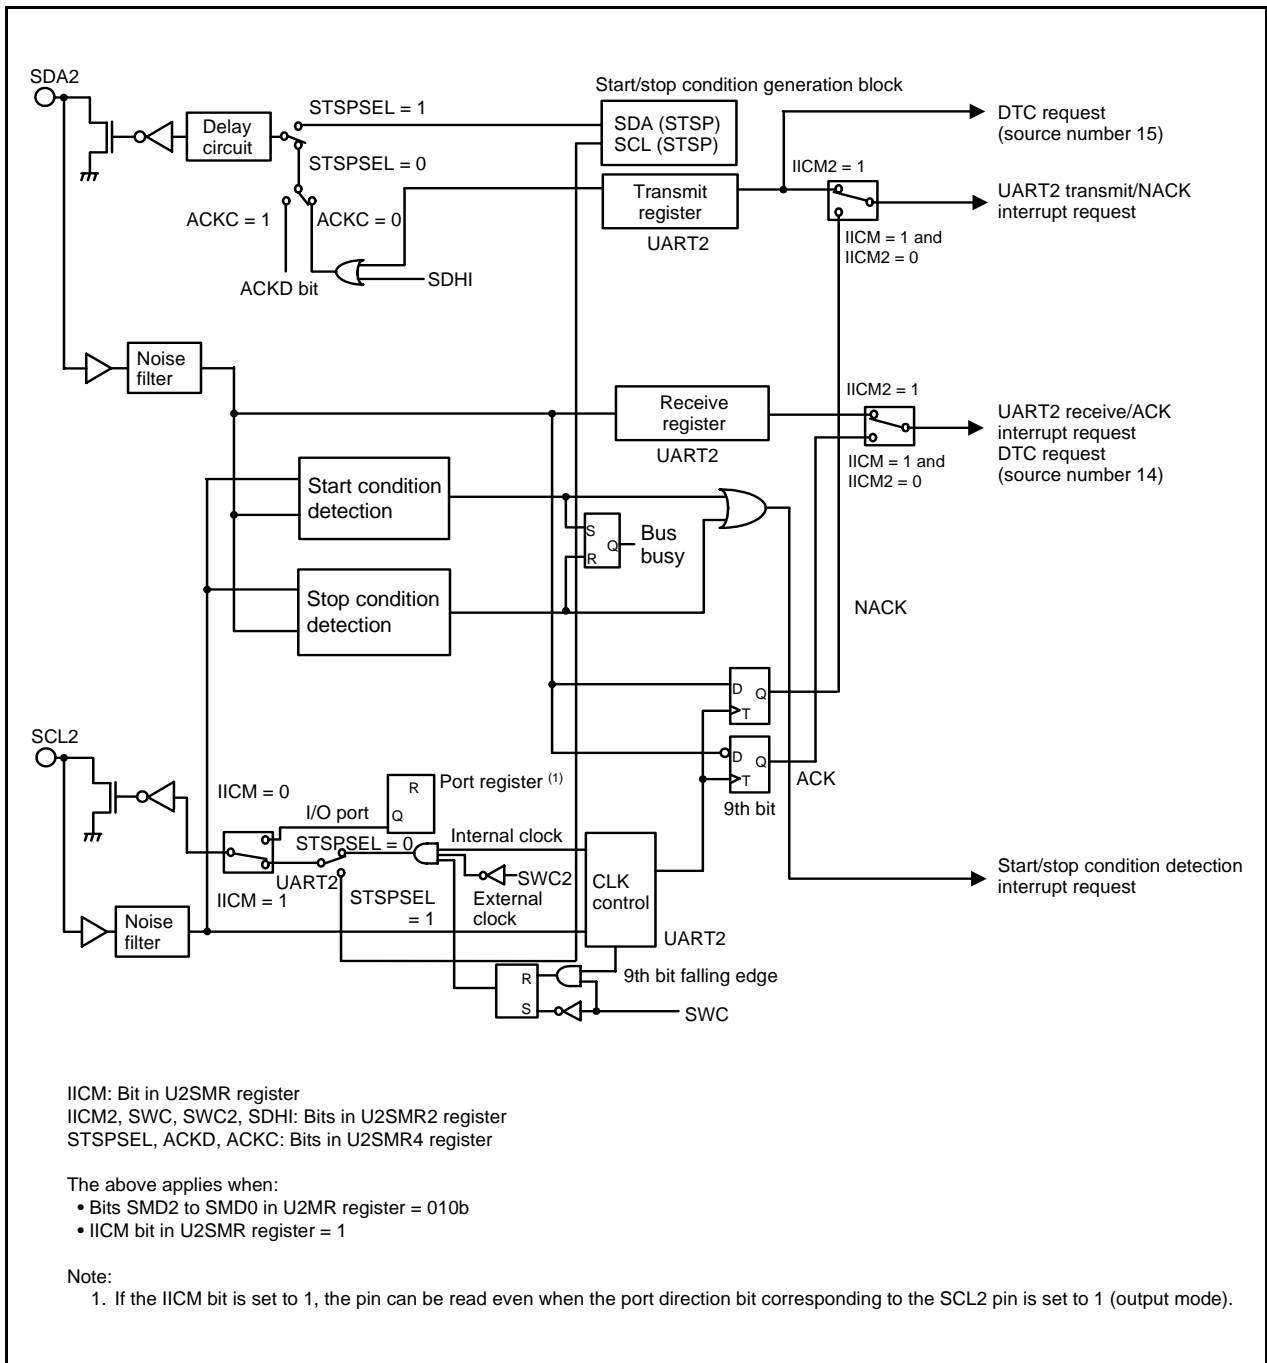
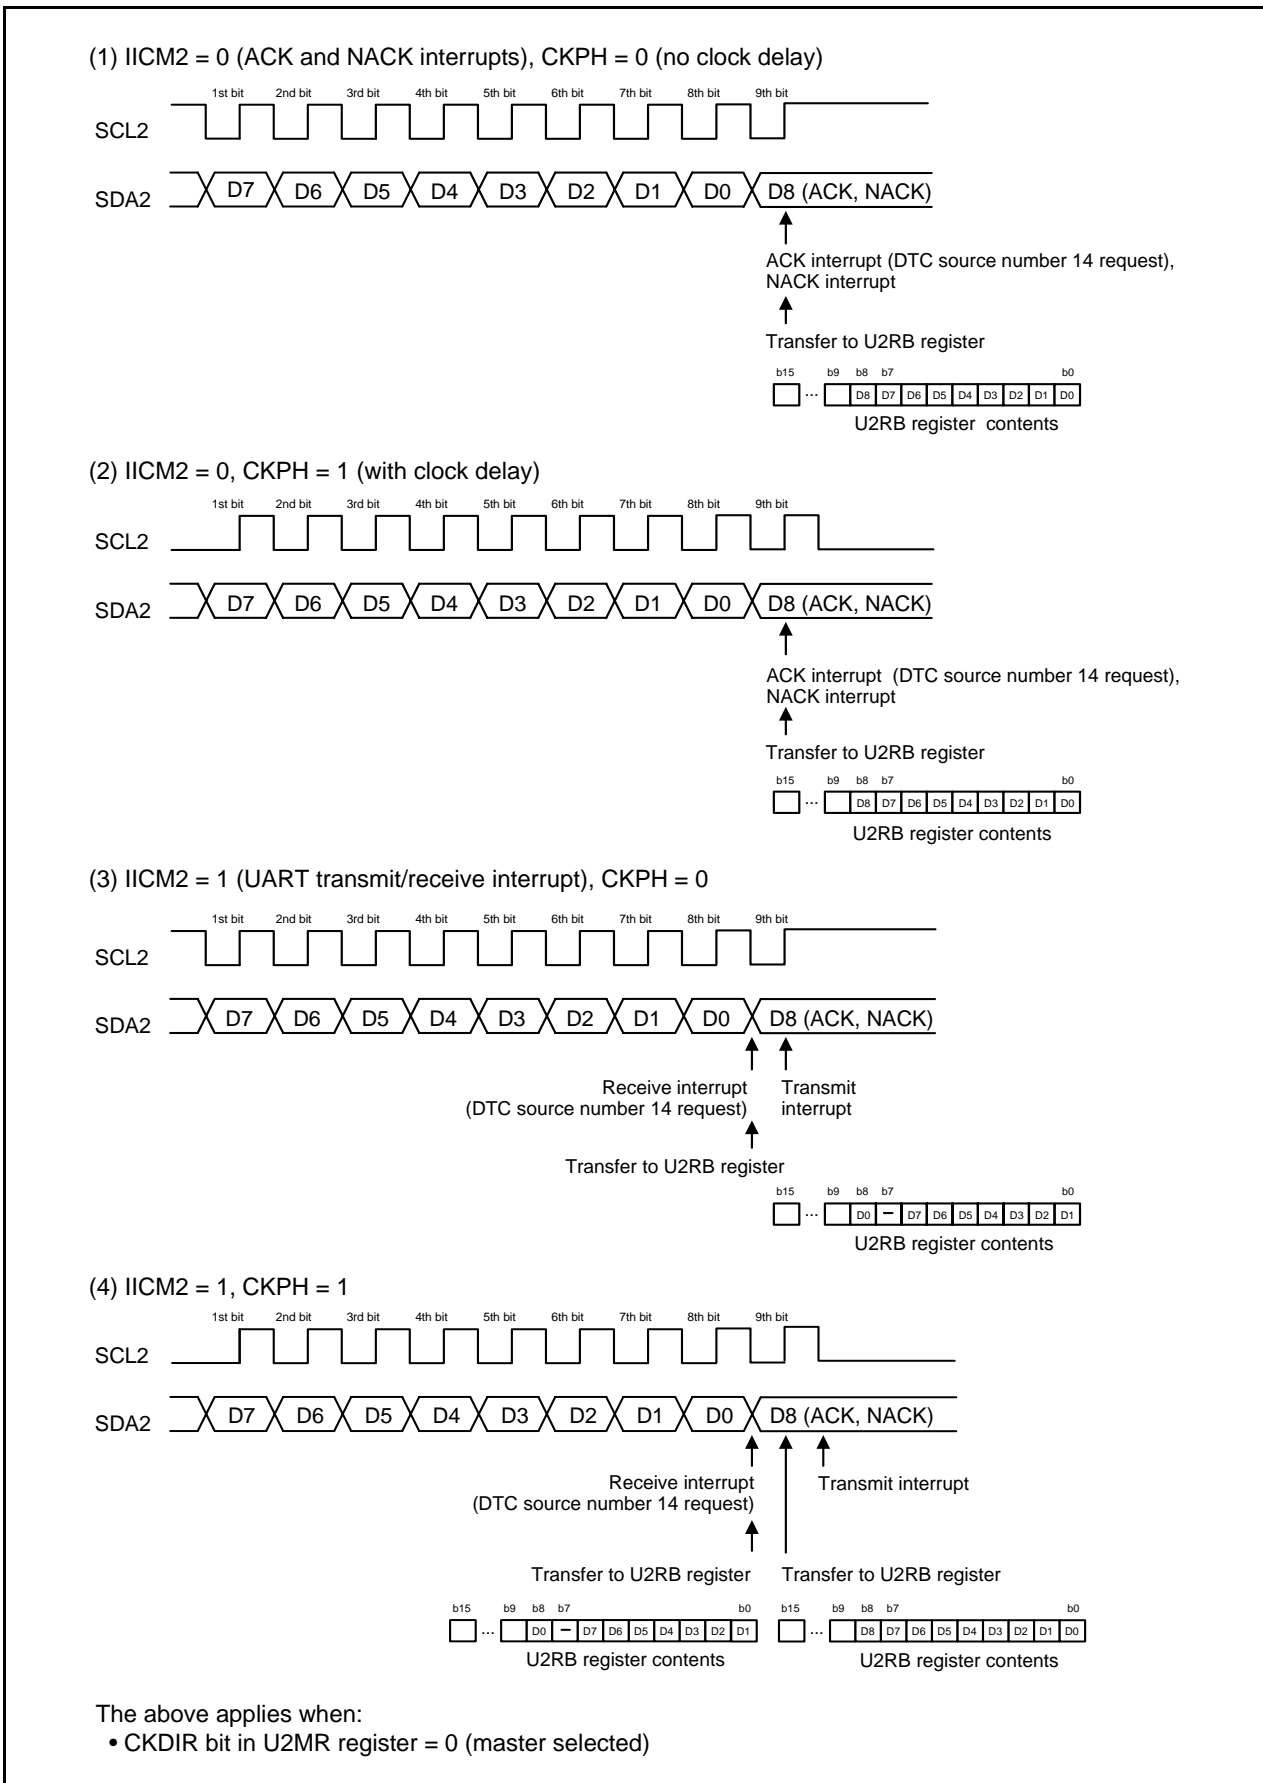

Figure 25.13 I2C Mode Block Diagram
Figure 25.14 Transfer to U2RB Register and Interrupt Timing
I²C mode is provided for use as a simplified I²C interface compatible mode. Table 25.9 lists the I²C Mode Specifications. Tables 25.10 and 25.11 list the registers used in I²C mode and the settings. Table 25.12 lists the I²C Mode Functions, Figure 25.13 shows the I²C Mode Block Diagram, and Figure 25.14 shows the Transfer to U2RB Register and Interrupt Timing.
6. Refer to **Figure 25.14 Transfer to U2RB Register and Interrupt Timing**.
The transfer clock is used to transmit and receive data as is shown in **Figure 25.14 Transfer to U2RB Register and Interrupt Timing**.